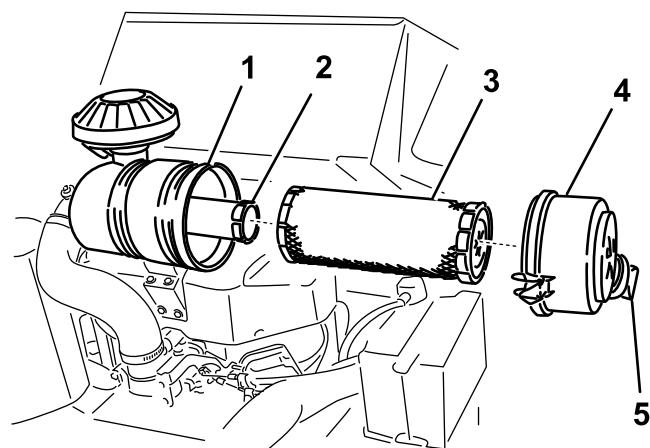

Figure 34
3. Release the latches on the air cleaner and pull the air cleaner cover off of the air cleaner body (Figure 34).
1. Gently slide the primary filter out of the air cleaner body (Figure 34). Avoid knocking the filter into the side of the body.
4. If you are replacing the safety filter, carefully slide the new filter into the filter body (Figure 34).
5. Carefully slide the primary filter over the safety filter (Figure 34). Ensure that it is fully seated by pushing on the outer rim of the filter while installing it.
6. Install the air cleaner cover with the dust cap oriented as shown in Figure 34 and secure the latches.